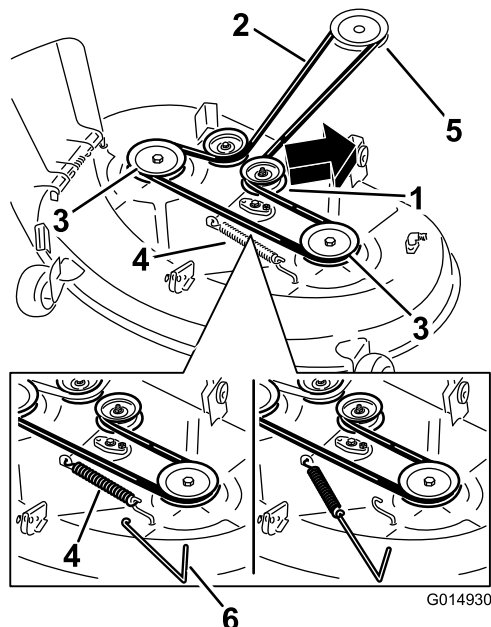

Figure 55
remove tension on the idler pulley and roll the belt off of the pulleys (Figure 55).
5. Route the new belt around the engine pulley and mower pulleys (Figure 55).
6. Using a spring removal tool, (Toro part no. 92-5771), install the idler spring over the deck hook and placing tension on the idler pulley and mower belt (Figure 55).